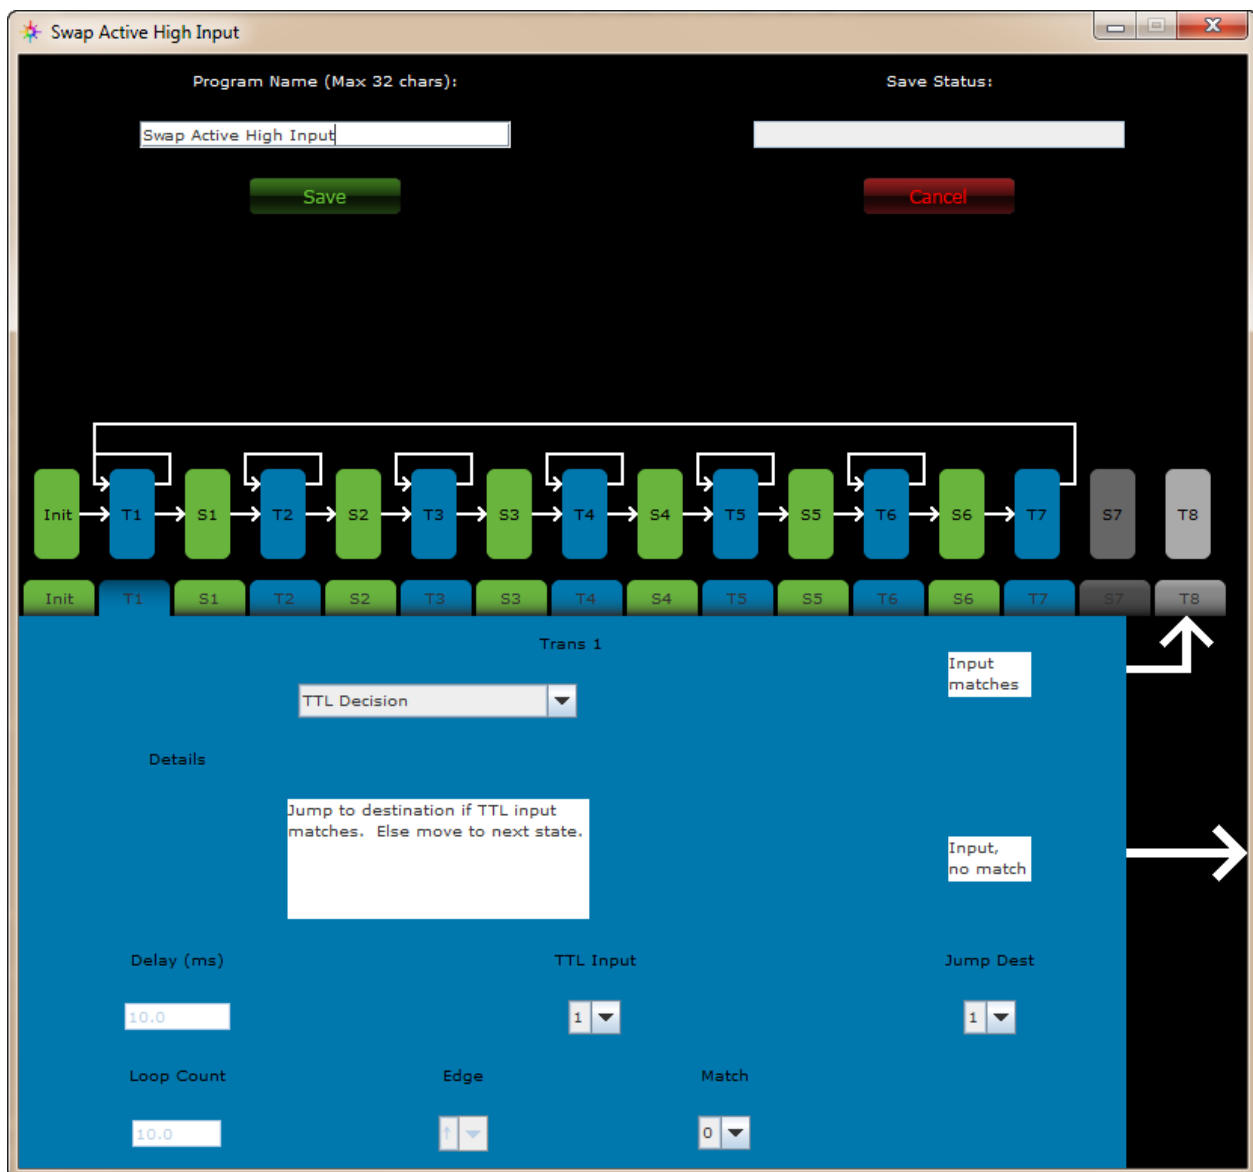

Figure 41 - Transition screen
- c. Transition Tabs, **T1** through **T8** – An example of a transition tab is shown in Figure 41. These tabs allow the user to specify transitions between states as well as the end point for a non-looping program. Undefined or unused transitions are indicated by gray tabs. A transition which ends the program, i.e. “Stop” (see